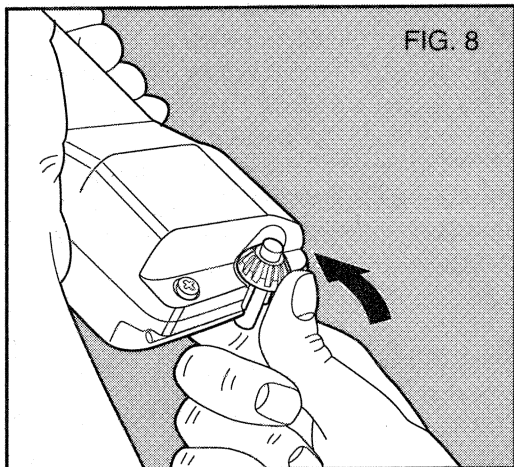

FIG. 8
4. Center-punch an indentation at the point to be drilled. This will overcome tendency of bit to slip around on a smooth surface. Place the tip of bit in indentation and turn motor "**ON**". See Figure 8.